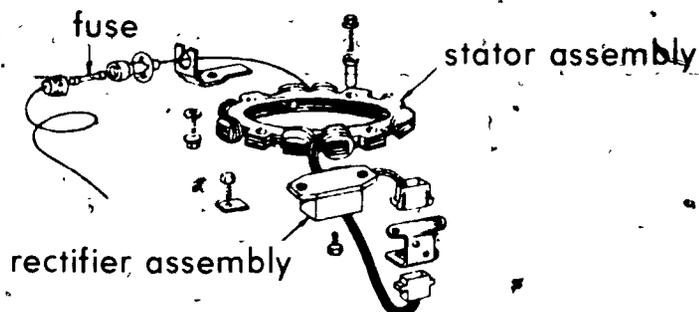

FIGURE 3
4. Replace defective stator (Figure 3)